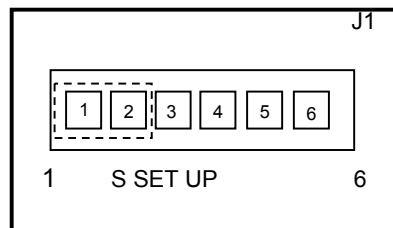

Figure 13
11. Position the jumper on pins 1 and 2 of the **J1 (S SET UP)** header. (Refer to Figure 13).